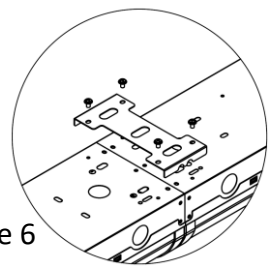

Figure 6
6. **Continuous Row Mounting:** If continuous row mounting is desired, remove the knockouts on the ends of abutting fixtures and attach optional Wrap FVL Joiner Bracket 65624 to the top of abutting fixtures using the supplied screws (Figure 6). Note that the row of fixtures must be supported at each end of the row and at each joiner bracket.